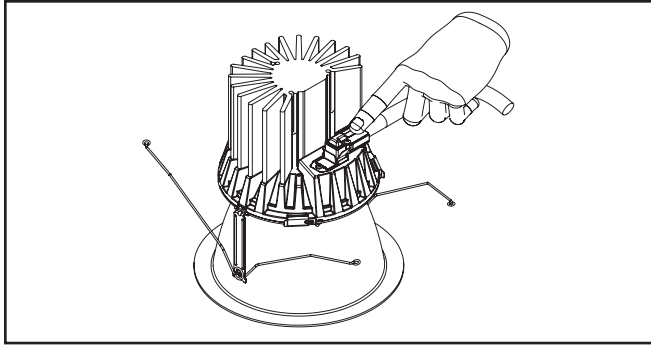

Figure 35
8. Properly align the connector as shown in (Figure 35). Plug in the luminaire quick disconnect on the module.